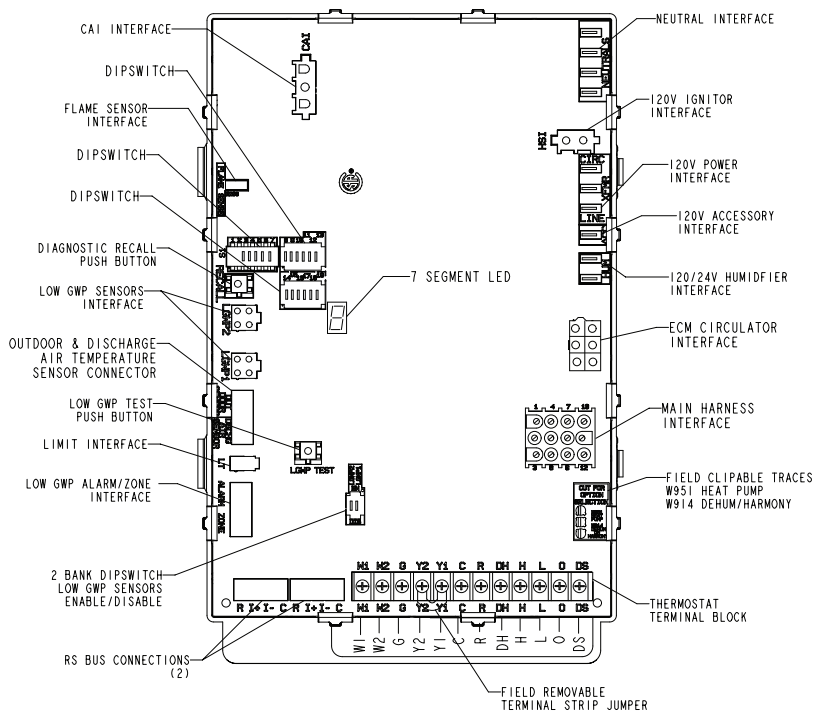

FIGURE 58
of the circuit being connected to one of the provided neutral terminals. See FIGURE 58 for location of terminal. This terminal is energized when the indoor blower is operating.
- 8 - One line voltage "HUM" 1/4" spade terminal is provided on the furnace integrated control. Any humidifier or other 120V accessory rated up to one amp can be connected to this terminal with the neutral leg of the circuit being connected to one of the provided neutral terminals. See FIGURE 58 for location of terminal. This terminal is energized in the heating mode when the indoor blower is operating.
- 9 - One 24V "H" terminal is provided on the furnace integrated control terminal block. Any humidifier rated up to 0.5 amp can be connected to this terminal with the ground leg of the circuit being connected to either ground or the "C" terminal. See FIGURE 58 for location of terminal.